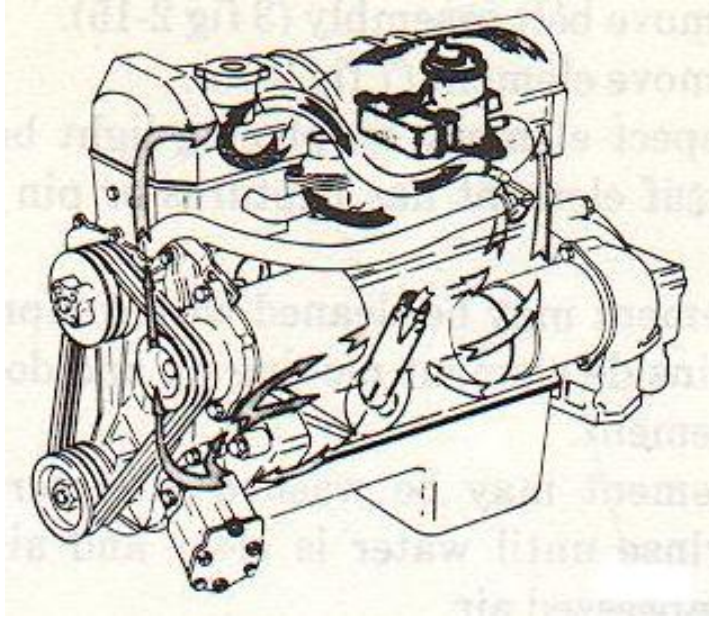

Figure 2-12. Crankcase ventilating system (schematic)
are burned. Clean air from the carburetor inlet is routed through the crankcase and in this way the manifold vacuum maintains a continuous circulation of air through the crankcase to reduce air pollution. Refer to figure 2-12.
f. Positive Crankcase Ventilation. The crankcase ventilation system (fig. 2-12) should be periodically inspected for loose, deteriorated or plugged hoses. Inspect all hose connections. Oil leakage at the rocker arm cover may be an indication that the ventilation control valve is restricted. Remove regulator valve